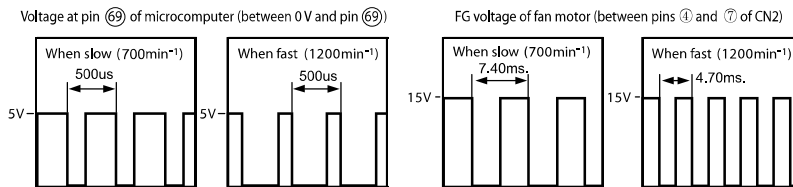

Fig. 3-2
- Low voltage at pin ⑬ resets the microcomputer and Hi activates the microcomputer.
- Waveform of each part when switching ON the power and when shutting down is shown in the Fig. 3-2.
- After switching ON the power, ① pin of IC501 supply voltage and ⑬ pin of microcomputer becomes Hi when DC5V line rises and reaches approximately 4.4V or higher. Then, resetting will be cancelled and microcomputer starts operating.
- After shutting down the power, ① pin of IC501 supply voltage and ⑬ pin of microcomputer becomes Lo when DC5V line falls and reaches approximately 4.2V or lower. Then, the microcomputer will be in reset condition.
- The VS receives a command voltage from the microcomputer. The VS terminal undergoes an analog voltage that matches the Lo level time ratio of the pulse signal from pin (69) of the microcomputer. (See Fig. 3-2.)